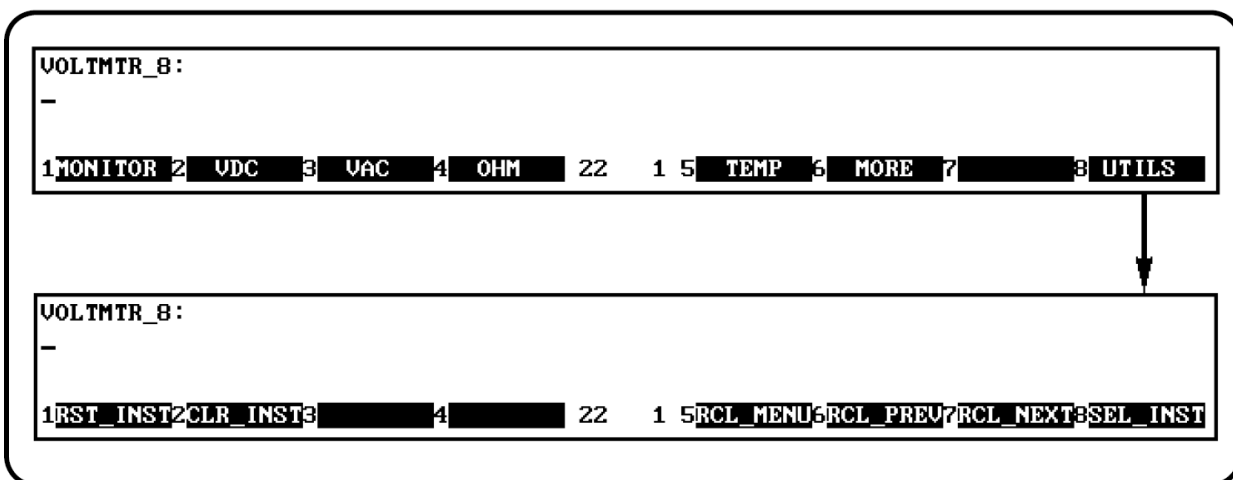

Figure 3-3 Accessing the Utility
- In addition to the instrument menu keys, CLR_INST, RST_INST and SEL_INST are helpful when operating instruments. These and other utility keys are accessed by pressing the UTILS key (see Figure 3-3). Refer to “Geral Key Descriptions” for information on the RCL_.... keys in this menu.